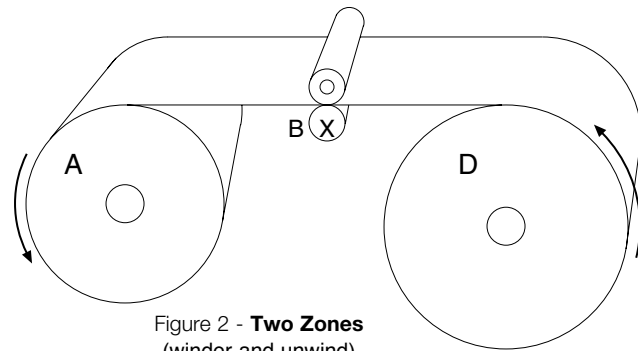

Figure 2 - Two Zones
**II.** More commonly, a machine will have driven nip rolls in the center, or processing section (see Fig. 2). A simple slitter/rewinder is an example. In this case, there are two separate tension zones to deal with and the tension levels may be different in each zone. Different tension levels are possible because the web is captured at the driven nip rolls, thus creating separate and distinct unwind and rewind zones. The driven nip rolls (B) will typically be powered by a motor drive that establishes machine line speed. Processing tension will be controlled by a brake system at the unwind (D), and a clutch or motor drive will control the winder tension (A). Again, the method of control will be dictated by the accuracy of tension control required in each zone. If process tension levels can vary by 10% or greater, a simple open loop brake control system may suffice. More accurate control would require a closed loop system, such as dancer or load cell feedback. Likewise, in the winder zone, open loop control may be sufficiently accurate, or closed loop or taper tension control may be required.